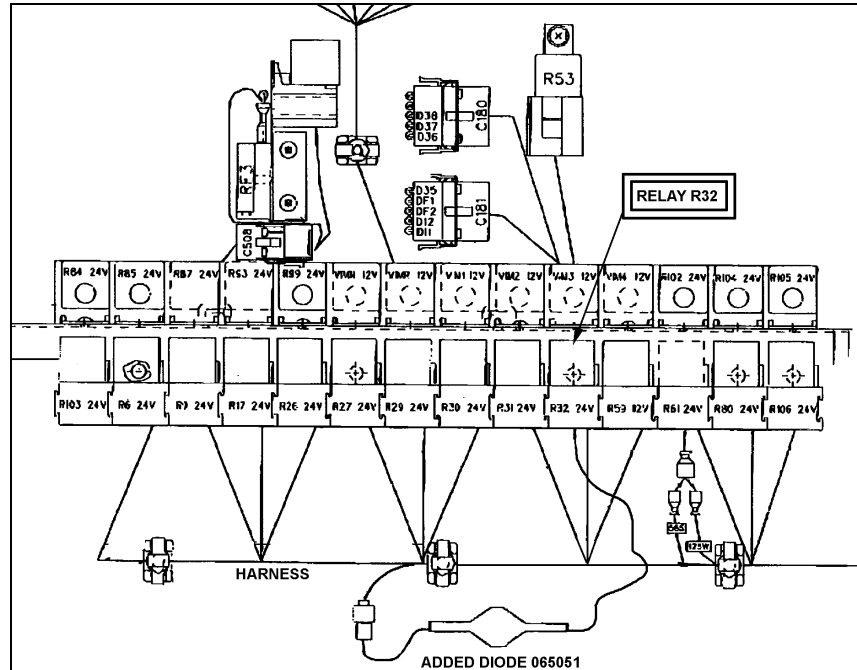

figure 5 : junction box and relay base
8. Locate the rear junction box. With a flat blade screwdriver, pull out the red lead 38C female connector from terminal #87 of relay R32 and connect it to the diode (figure5 &6).
9. Connect the other lead of diode 065051 into terminal #87 of relay R32 (figure5 & 6) and close the rear electric compartment door.